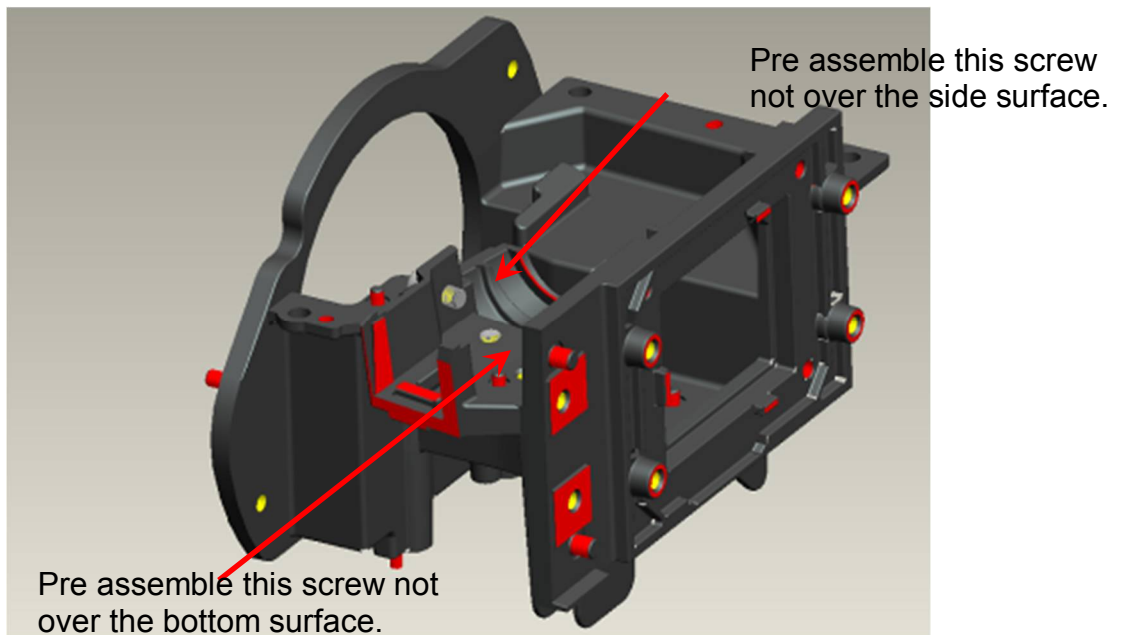

Fig. I-2
** Adjustment criteria refer to below item I.2 & (Fig. I-2).